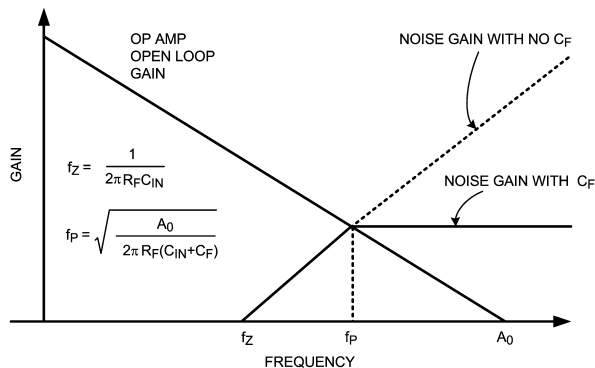

FIGURE 9. C_F Selection for Stability
An essential component for obtaining a maximally flat response is the feedback capacitor, C_F . The capacitance seen at the input of the amplifier, C_{IN} , combined with the feedback capacitor, R_F , generate a phase lag which causes gain-peaking and can destabilize the circuit. C_{IN} is usually just the sum of C_D and C_{CM} . The feedback capacitor C_F creates a pole, f_P in the noise gain of the circuit, which neutralizes the zero in the noise gain, f_Z , created by the combination of R_F and C_{IN} . If properly positioned, the noise gain pole created by C_F can ensure that the slope of the gain remains at 20 dB/decade till the unity gain frequency of the amplifier is reached, thus ensuring stability. As shown in Figure 9, f_P is positioned such that it coincides with the point where the noise gain intersects the op amp's open loop gain. In this case, f_P is also the overall -3 dB frequency of the transimpedance amplifier. The value of C_F needed to make it so is given by Equation (3). A larger value of C_F causes excessive reduction of bandwidth, while a smaller value fails to prevent gain peaking and instability.